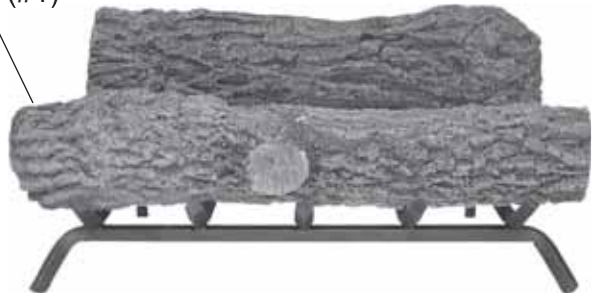

Figure 54 - Placing Front Log (#1) on Front of Grate
2. Place Front Log #1 on front of grate. *See Figure 54.*